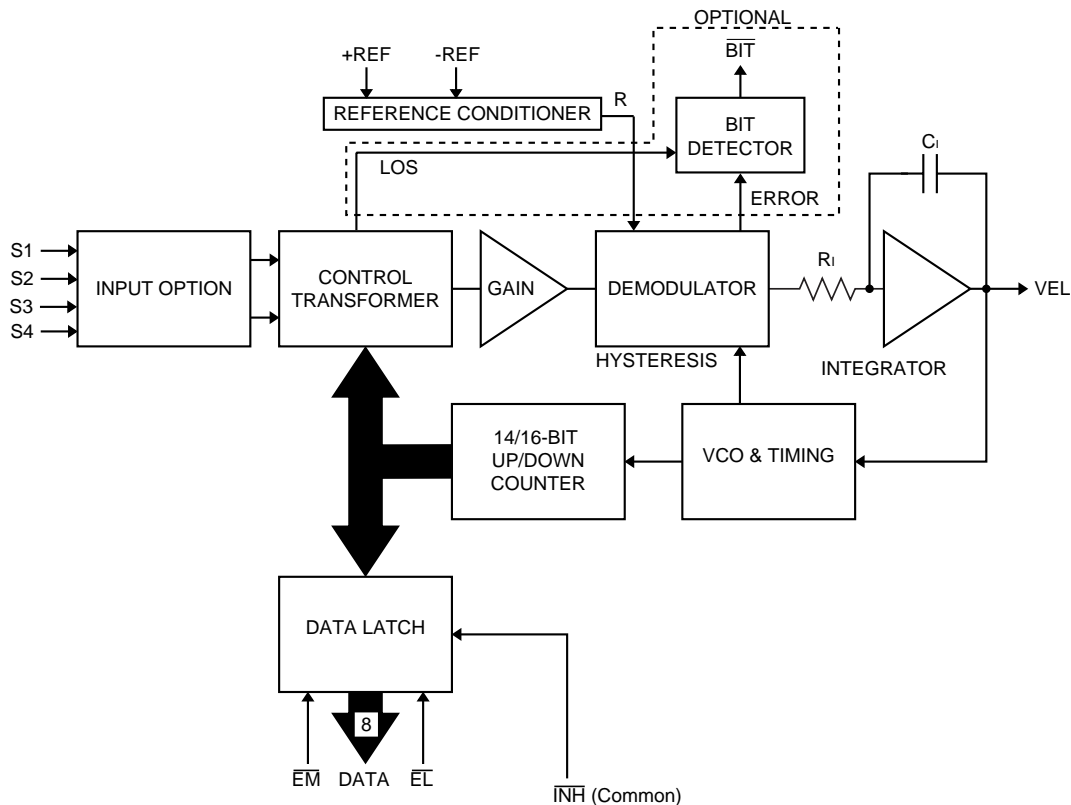

FIGURE 1. SDC-14610/15 BLOCK DIAGRAM (ONE CHANNEL)
FIGURE 1 is the Functional Block Diagram of SDC-14610/15 Series. The converter operates with ± 5 VDC power supplies. Analog signals are referenced to analog ground, which is at ground potential. The converter is made up of three main sections; an input front-end, a converter, and a digital interface. The converter front-end differs for synchro, resolver and direct inputs. An electronic Scott-T is used for synchro inputs, a resolver conditioner for resolver inputs and a sine and cosine voltage follower for direct inputs. These amplifiers feed the high accuracy Control Transformer (CT). Its other input is the 14-bit digital angle ϕ . Its output is an analog error angle, or difference angle, between the two inputs. The CT performs the ratiometric trigonometric computation of $\text{SIN}\theta\text{COS}\phi - \text{COS}\theta\text{SIN}\phi = \text{SIN}(\theta - \phi)$ using amplifiers, switches, logic and capacitors in precision ratios.
The dynamic performance of the converter can be determined from its functional block diagram and its Bode plots (open and closed loop); these are shown in FIGURES 1 and 2 respectively.